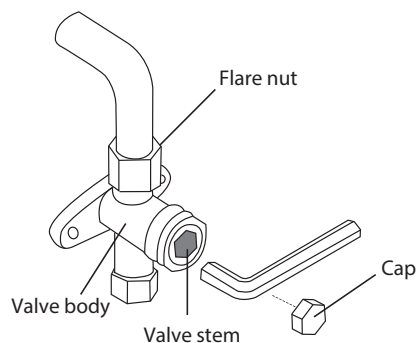

Fig. 19 – Service Valve Diagram
9. Insert a hexagonal wrench into each Gas Side Service Valve for size 18 or into the Master Gas Side Service Valve for sizes 27–48 and open the valve by turning the wrench 1/4 counterclockwise. Listen for gas to exit the system (see Fig. 19).
12. Using a hexagonal wrench, fully open all the gas and liquid service valves for the size 18 and all the Master Gas and Liquid service valves for sizes 27–48 (see Fig. 19).